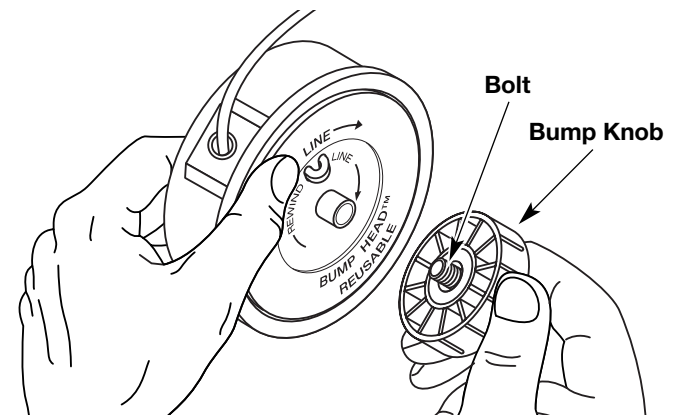

Fig. 12
1. Hold the outer spool with one hand and unscrew the bump knob counterclockwise (Fig. 12). Inspect the bolt inside the bump knob to make sure it moves freely. Replace the bump knob if damaged.